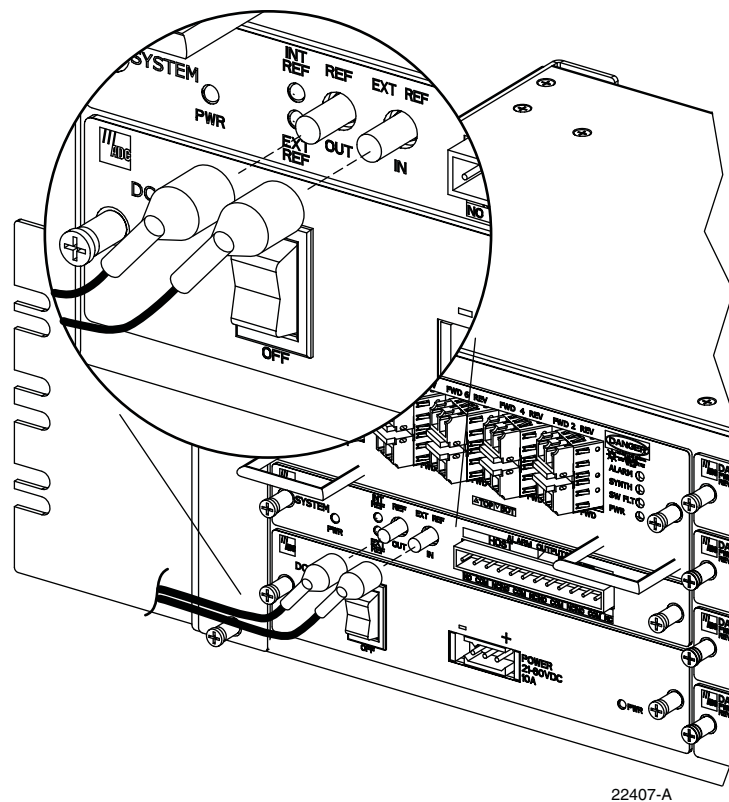

Figure 15. EXT REF Connections
1. Connect one end of the EXT REF interface cable (accessory) to either the IN or OUT port on HU #1 as shown in Figure 15.